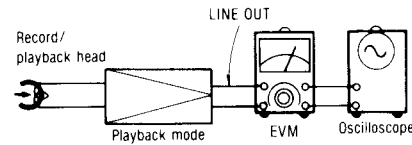

Fig. 2
• The serial number plate of this product to attached to the bottom cover (Shown in fig. 2).
1. Make connections as shown in fig. 2.
1. Test equipment connection is shown in fig. 2.